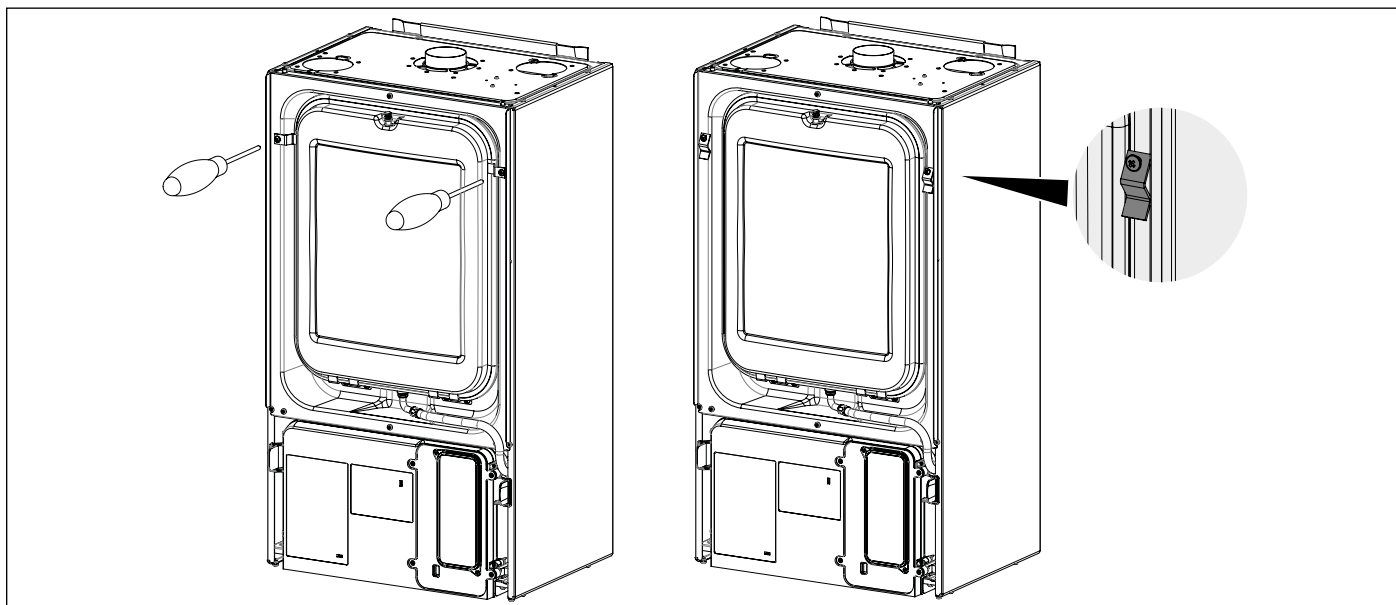
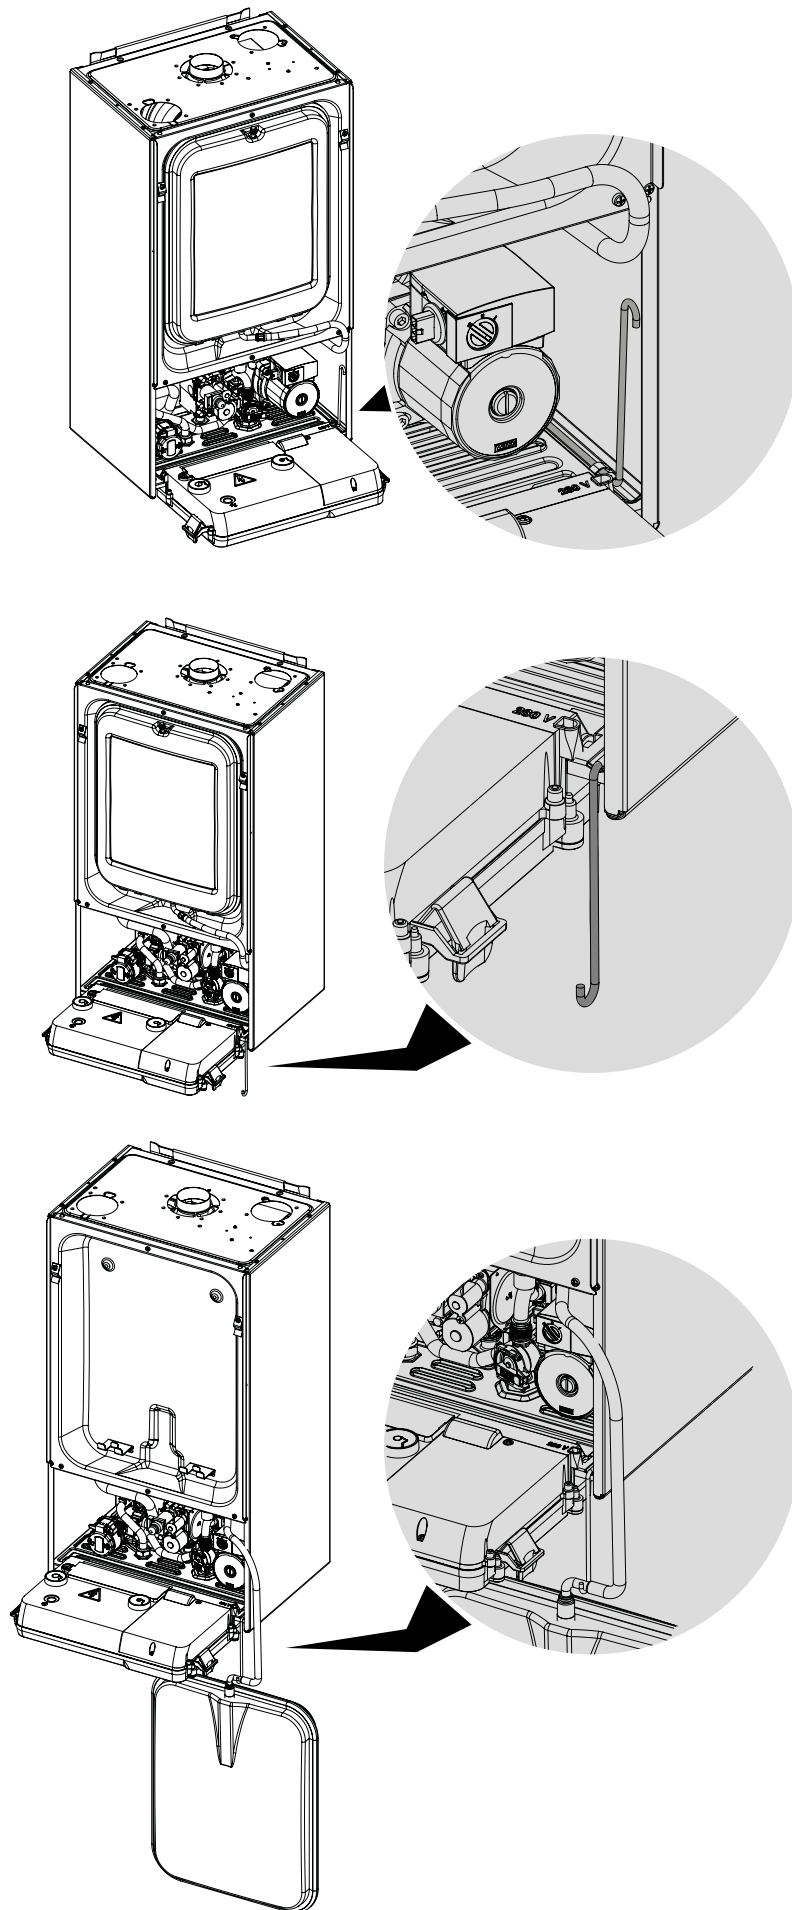

Fig. 44 Expansion vessel mounting bracket removal
Fig. 45 Expansion vessel bracket
- Remove the front panel of the combustion chamber, and remove expansion vessel (see Fig. 44 Expansion vessel mounting bracket removal and Fig. 45 Expansion vessel bracket).